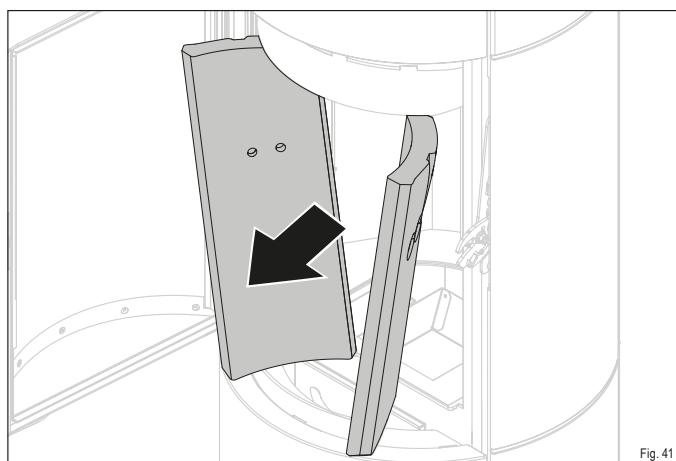

Fig. 41
- Remove the two firebricks at the side (Fig. 41).